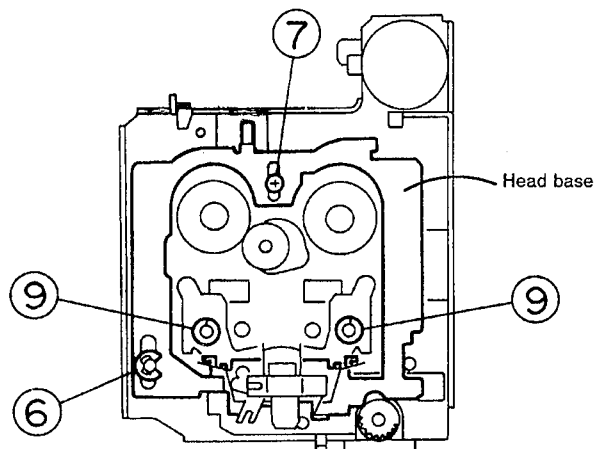
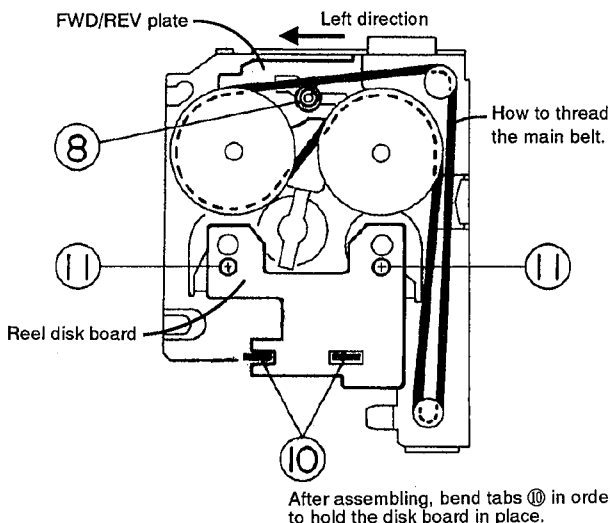
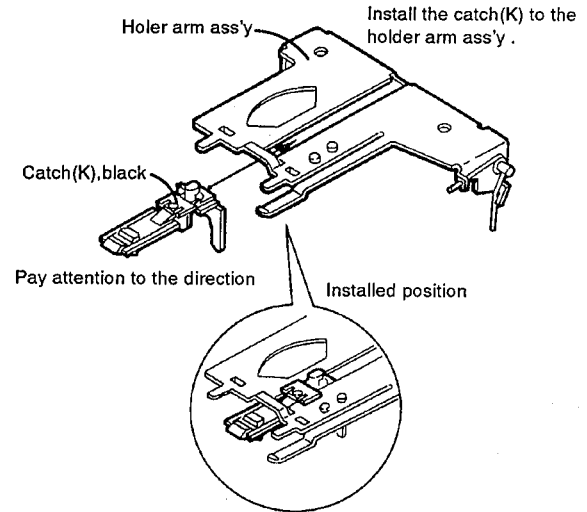

Fig. 4-13
Fig. 4-14
Fig. 4-15
■ Head base (See Figs. 4-13 and 4-14)
- 3) Remove the E washer ⑥ from the left shaft of the pinch roller.
- 4) Remove screw ⑦ for the head base.
- 5) Turn the head base upside down, then remove the C washer ⑧ securing the collar which secures the FWD/REV plate (the collar can also be removed.) (At this time, if the main belt is removed, operation will be made easier.)
■ Flywheel ass'y (See Figs. 4-13 and 4-14)
- 3) Remove two C washers ⑨ attached to the capstan shaft (remove both the right and left washers).
■ Reel disk board ass'y (See Fig. 4-14)
- 1) Straighten the bent tabs ⑩ holding the reel disk board.
- 2) Remove two screws ⑪ fixing the reel disk board.
■ How to assemble the cassette holder and sub chassis (See Figs. 4-15 through 4-18)
Step 1. How to Install the catch (K)